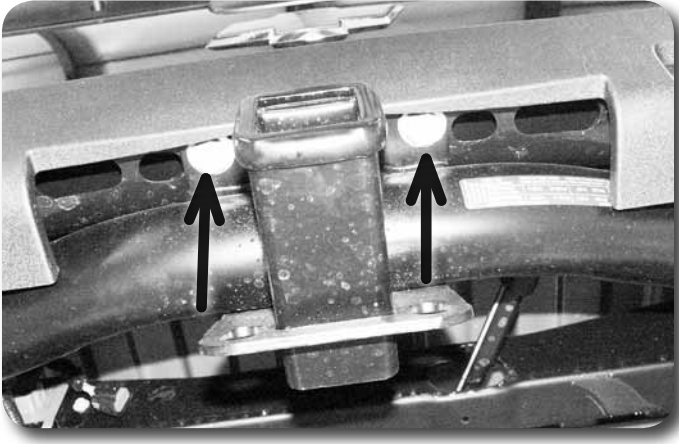

Figure 3
5. If equipped, remove the two bolts mounting the rear bumper to the receiver hitch Figure 3.